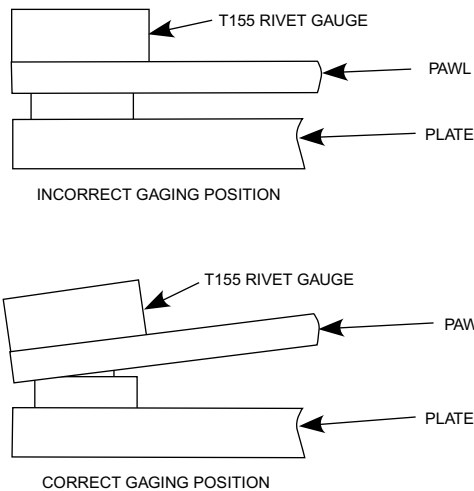

Figure 3.3.4B
7. Align the outer edge of the pawl with the outer edge of the impulse coupling plate. Lift the inner edge of the pawl upward and push the pawl outward. If the inner edge of the pawl is not lifted when the pawl is pushed outward, the gaging will not be accurate. (See Figure 3.3.4B.)